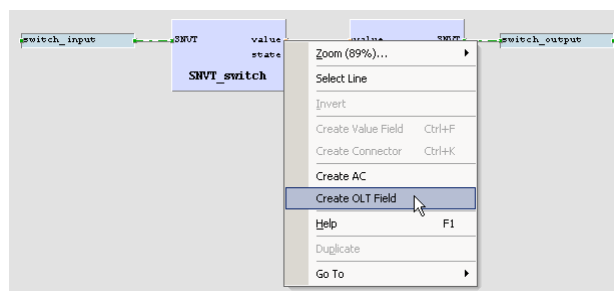

Figure 44: Create online test fields
- For later debugging, it is good practice to add online test fields to the drawing, to display the current value of the signals during online test. To do this, right-click on the value output of the left function block and select **Create OLT Field** from the context menu, as shown in Figure 44.